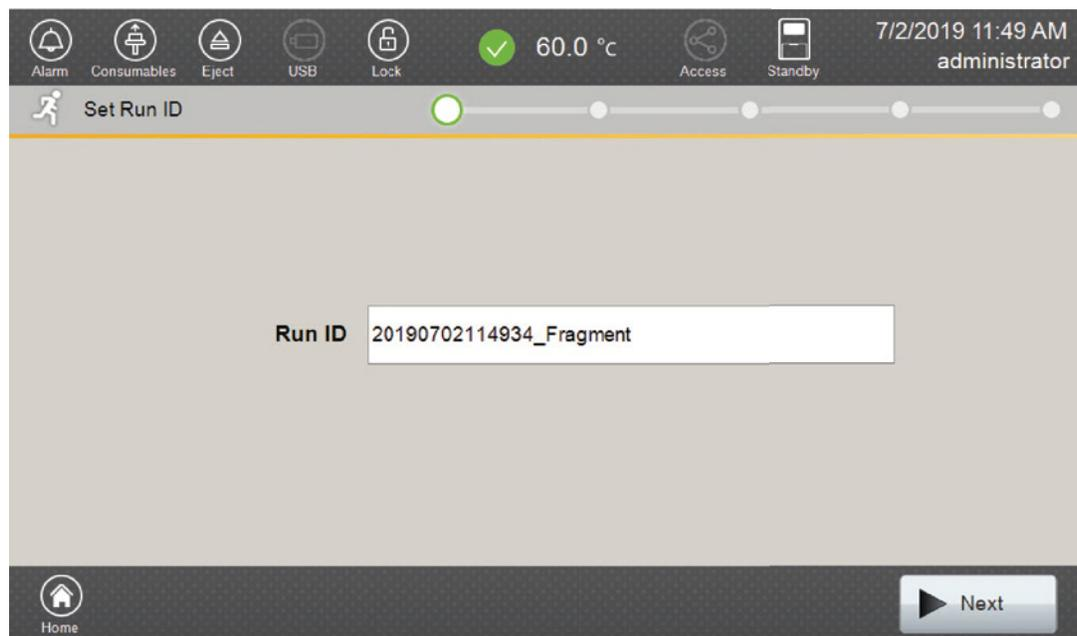

Figure 7. ‘Set Run ID’ screen.
- Use the default name that includes date, time and “Fragment” or enter a Run ID on the ‘Set Run ID’ screen (Figure 7). Select the **Run ID** box to open the ‘Run ID’ window and a keypad will become active on the touch screen. Alternatively, the Run ID can be entered using a traditional keyboard if one is connected to the Spectrum Compact CE System.